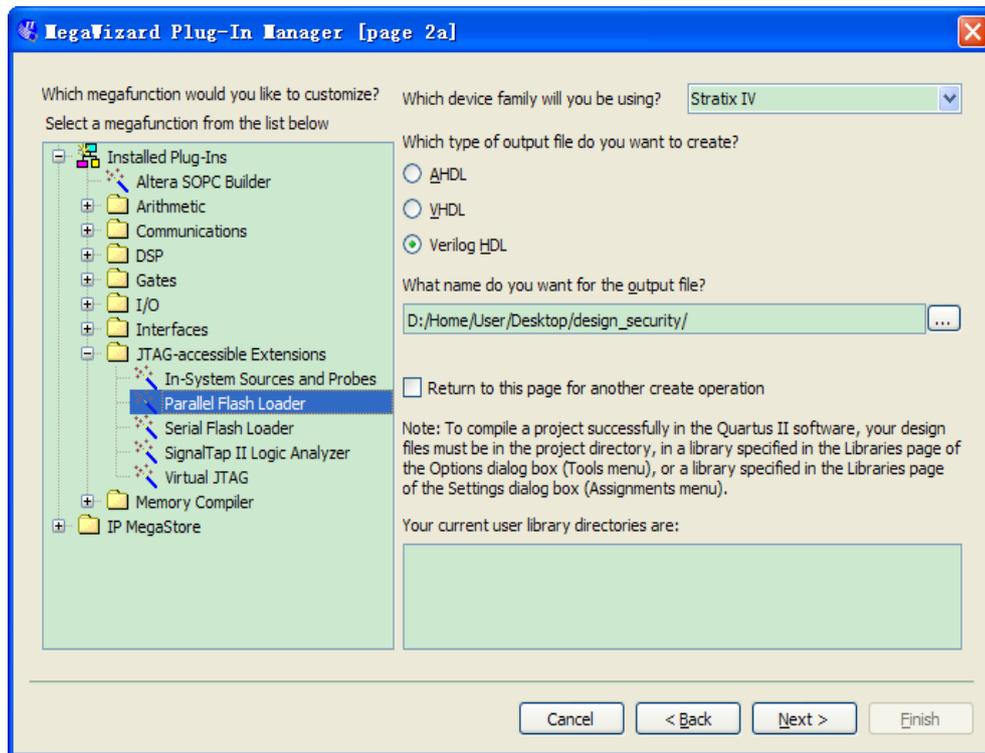
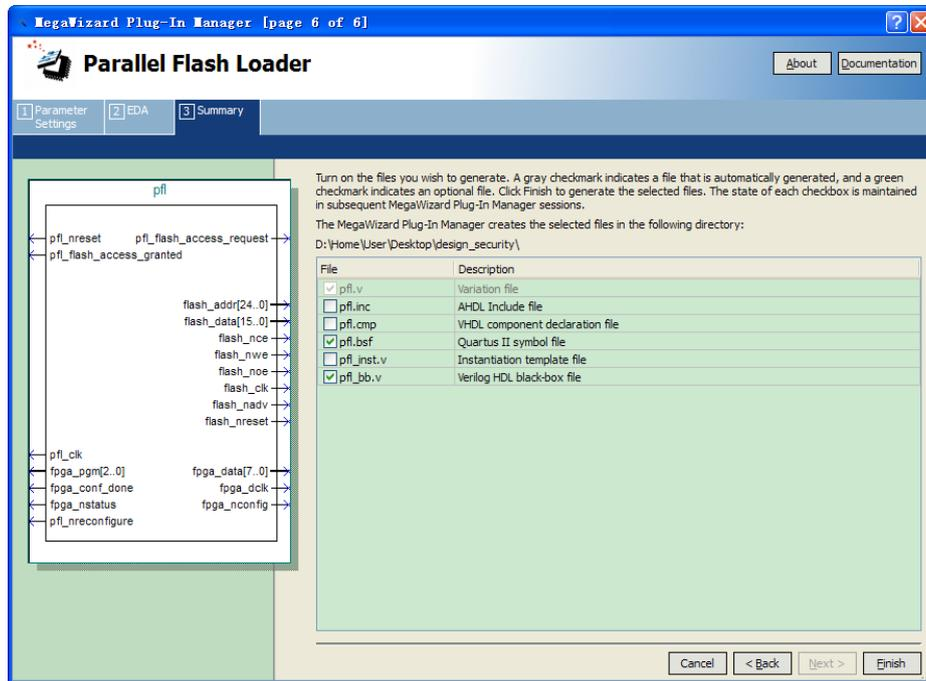

Figure 3-8 MegaWizard Plug-In Manager [page 2a] Dialog Box
Figure 3-13 Setting the PFL Megafunction Parameters(Step 5)
2. On page 1, click **Create a new custom megafunction variation**. Click **Next**. Page 2a appears As shown in Figure 3-8.
5. In the output file list, select **Verilog HDL** output file type, As shown in Figure 3-8.
11. Click **Next**. **Summary** page appears, s shown in Figure 3-13 This page shows the files that will be created for the megafunction. Choose any additional file types that you want to create.
12. Click **Finish**. The Quartus II software generates the PFL megafunction in the form of the HDL file selected on Figure 3-8 and any additional files selected on Figure 3-13.